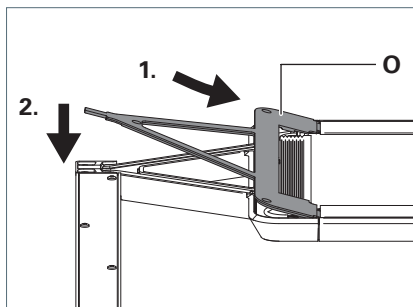

Fig. 17: Fitting the cover.
1. Set the cover **O** with the three tabs on the underside of the cover into the recesses on the luminaire head and press the cover firmly, see Fig. 17.